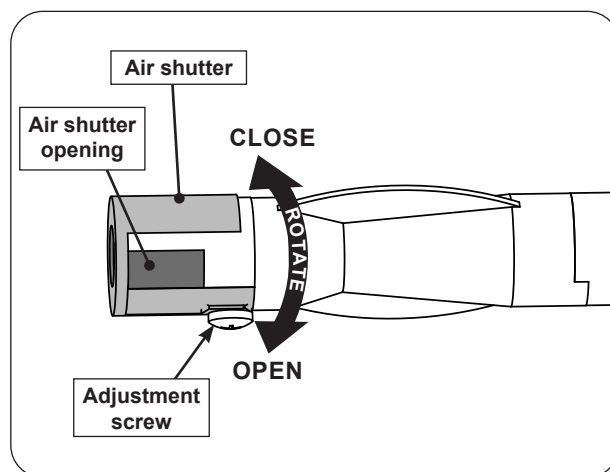

Fig. 43-2 Side burner air shutter adjustment detail
2. Loosen the adjustment screw with a screwdriver, then carefully rotate the shutter to open or close it. See Fig. 43-2 for details.